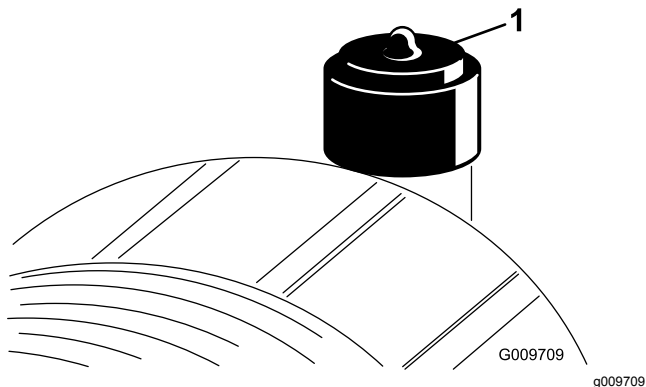

Figure 25
Service the air cleaner filter only when the service indicator (Figure 25) requires it. Changing the air filter before it is necessary only increases the chance of dirt entering the engine when the filter is removed.
6. Reset the indicator (Figure 25) if it shows red.